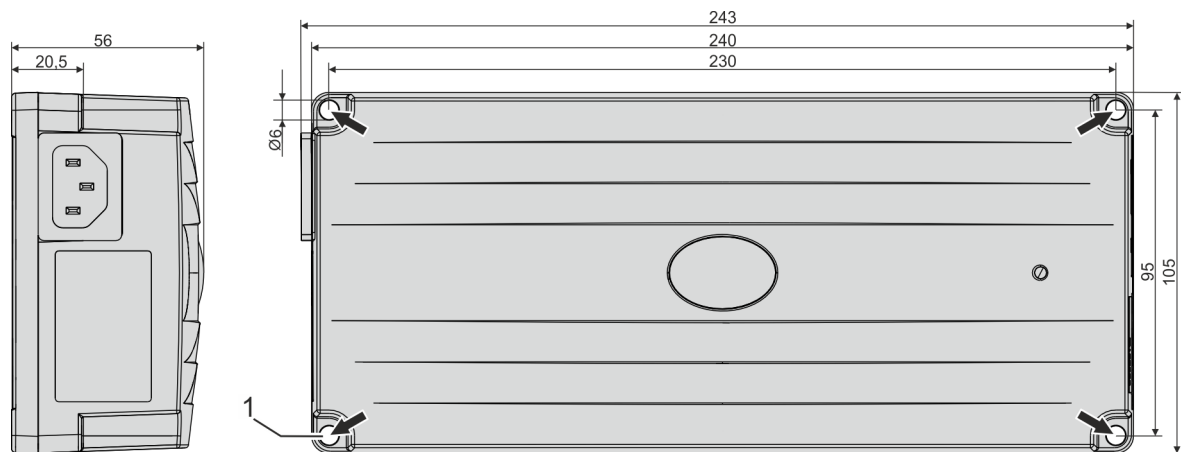

Fig. 19: Connection points
1. → Drill holes (4 x diam. 5.5 mm) in the surface as per the spacing shown in Fig. 19.
Insert the 4 screws into the drilled holes (Fig. 19/1) and tighten them alternately in diagonal sequence.